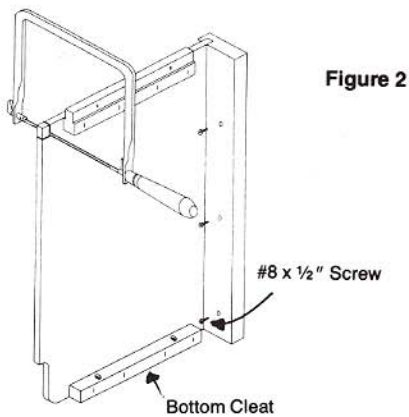
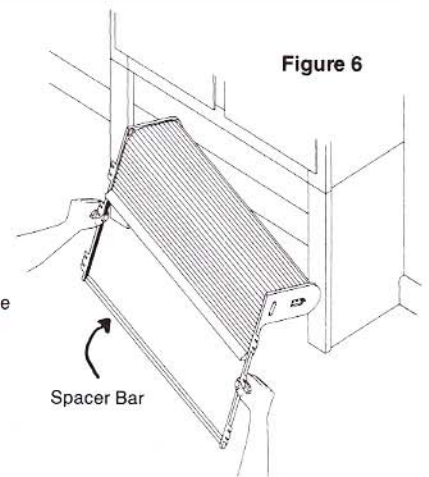

Figure 2
Figure 6
Step #2—If your countertop has a backsplash, the bottom rear corner of both end panels must be notched to fit. Measure and transfer the backsplash dimensions to each end panel. The bottom of the panel will have the square cleat attached. Cut the notches with a fine-toothed coping saw. Then notch the top of each panel to fit the bottom edge of the existing cabinet. (See Figure 2)
Step #3—Start three (3) #8 x 1/2" screws into predrilled holes (shown at right edge stile in Figure 2) in right end panel. DO NOT start screws in left end panel.
Step #4—Position right end panel square with countertop. Countertop will need to be marked and predrilled to accept the #8 x 1 1/4" screws through bottom cleat. (See Figures 2 and 3)
Step #10—Insert ends of spacer bar between plastic tracks as you inserted the door previously. With spacer in place, tilt tambour assembly into cabinet. (See Figure 6) Position right hand plastic track under heads of the three (3) screws previously started and fasten securely. (See Figure 2)